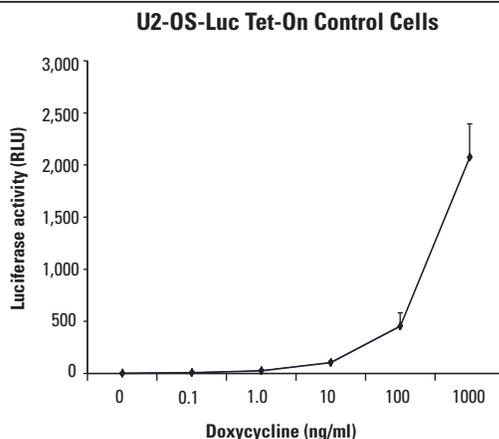

Figure 4. Doxycycline dose-response curve for the U2-OS-Luc Tet-On Control Cell Line
4. Assay each sample for luciferase activity using any standard luciferase assay. Plot your results and compare to Figure 4, page 8.